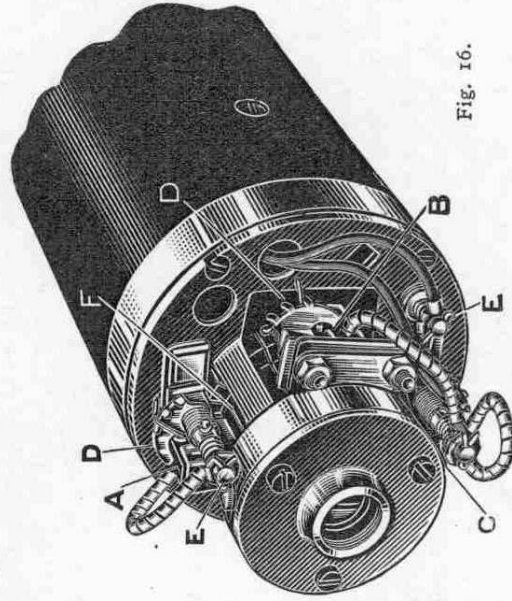

Fig. 16.
**BRUSHES.** It is very important to make sure that the brushes "A.B.C." (Fig. 16) work freely in their holders. This can easily be ascertained by gently pulling each flexible lead, when the brush should move without the slightest suggestion of sluggishness. It should also return to its original position directly the lead is let go. When testing the brush in this way release it gently otherwise it may get chipped. The brushes should "bed" over the whole surface; that is, the face in contact with the commutator should appear uniformly polished.